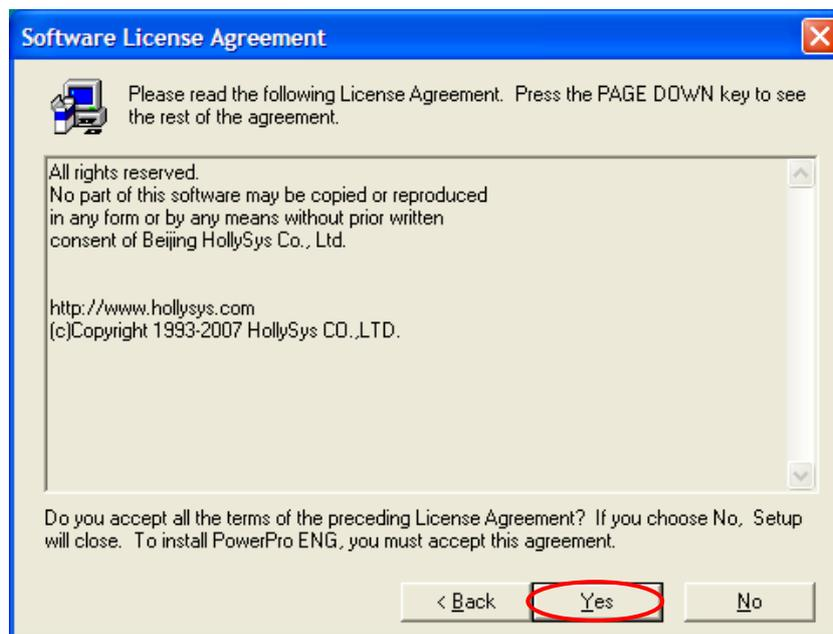

Figure 1-1-2 Installation Steps (2)
- Accept the license agreement and click “Yes”, as shown in figure 1-1-2.